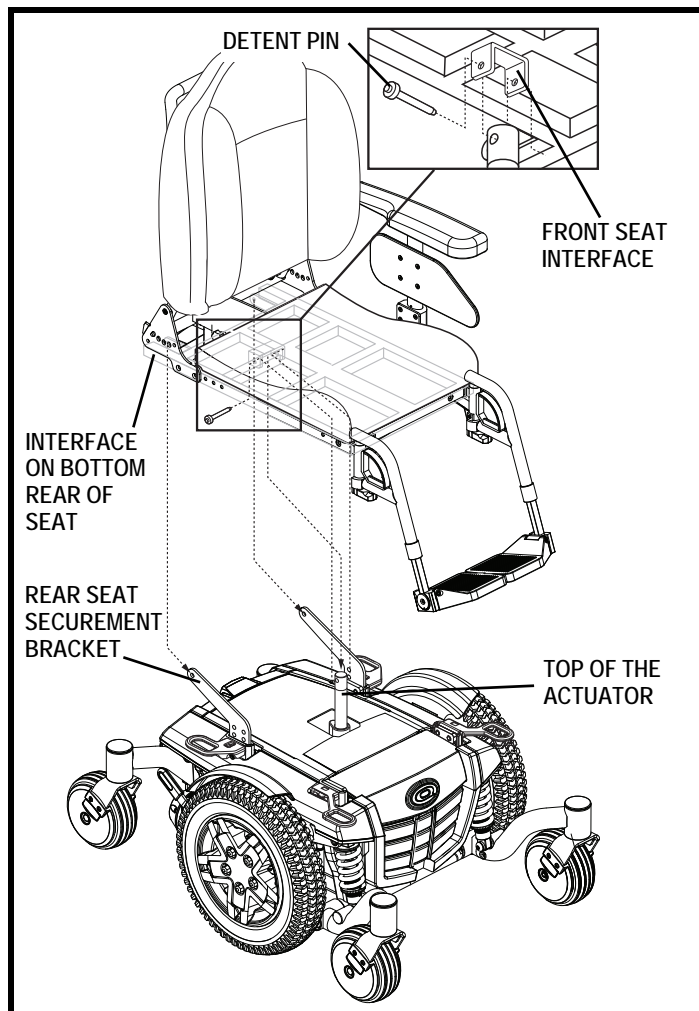

Figure 7. Mounting System and Contour Seat
1. Tilt the seat back and align the interfaces on the bottom rear of the seat with the rear seat securement brackets on the power base and secure with the hardware. **See figure 7.**
2. Remove the detent pin from the front seat interface. See **figure 7**.
3. Pivot the seat rearward and remove the seat from the power base by removing the hardware that attaches the rear seat securement brackets to the interfaces on the bottom of the rear of the seat. See **figure 7**.
8. Reinstall the front seat interface to the top of the tilt actuator using the detent pin. See **figure 7**.